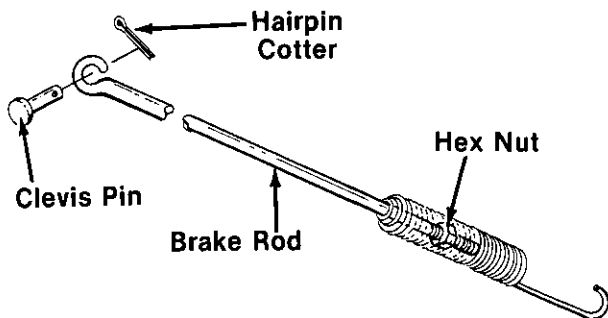

FIGURE 15.
4. If there is no more adjustment left at the two nuts, tighten the hex nut on the end of the brake rod, under the spring. See figure 15. Remove the hairpin cotter and clevis pin from the other end of the brake rod to disconnect it, and tighten the nut.